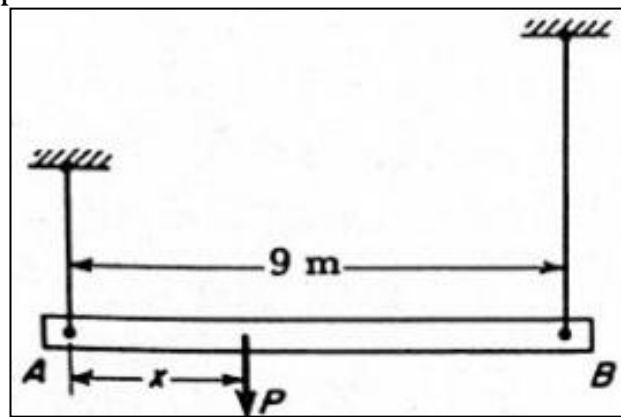

Fig. 3
- (b) A rigid bar AB, 9m long, is suspended by two vertical rods at it's ends and hangs in a horizontal position under it's own weight as shown in Fig. 3. The rod at A is brass; length 4m, cross sectional area 20 cm2, modulus of elasticity =  $10^6 \text{ kg/cm}^2$ . The rod at B is steel; length 5m, cross sectional area= 6 cm2, modulus of elasticity=  $2 \times 10^6 \text{ kg/cm}^2$ . At what distance 'X' from A may a vertical load P can be applied if the bar is to remain horizontal after the load is applied? [[CIV2101.1](Analyse/HOCQ)]